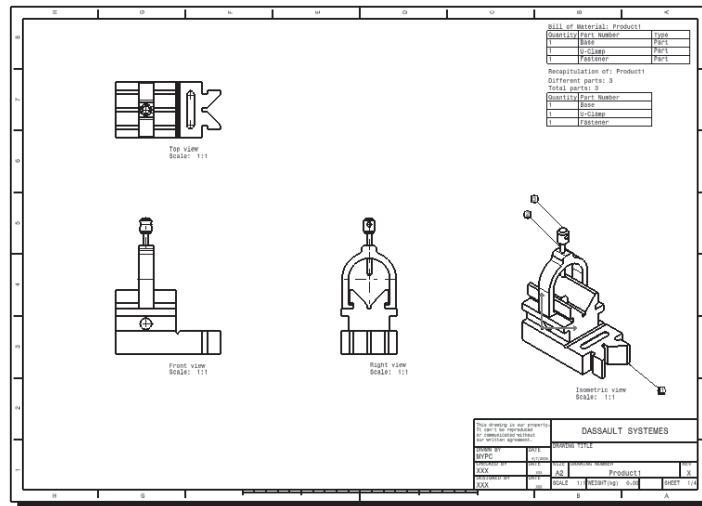

Figure 13-39 The final drawing sheet
- Generate the BOM, refer to Figure 13-39.
- Generate the balloons, refer to Figure 13-39.
18. Click near the upper right corner of the drawing sheet to define the upper left corner of the BOM, refer to Figure 13-39.
The final drawing sheet, after generating the BOM and balloons, is shown in Figure 13-39.